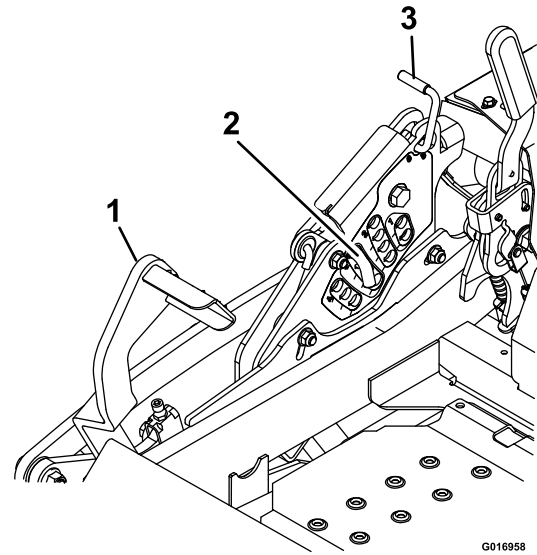

Figure 26
5. Push the foot pedal all the way forward and the deck will latch at the 4 1/2 inch (11.4 cm) transport position (Figure 26).